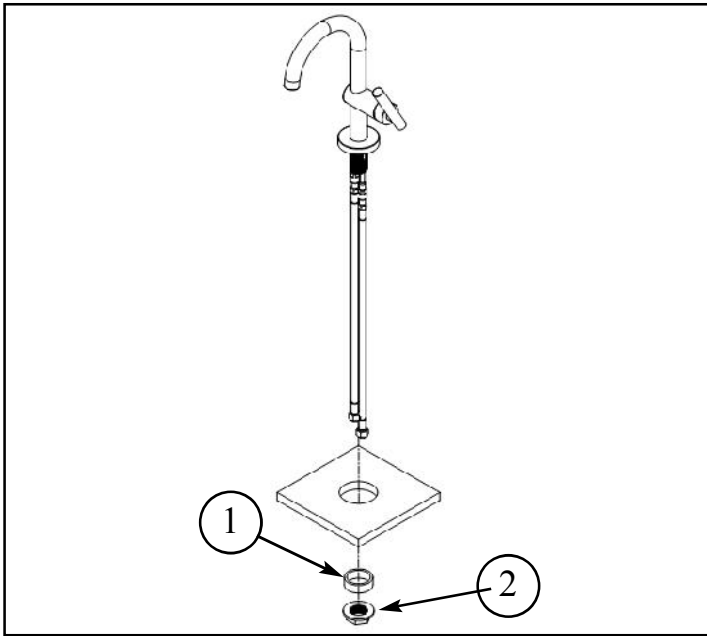

Figure 1
1. Place the spout hoses, one at a time, and secure spout into place with MOUNTING KIT (I) See Fig. 1